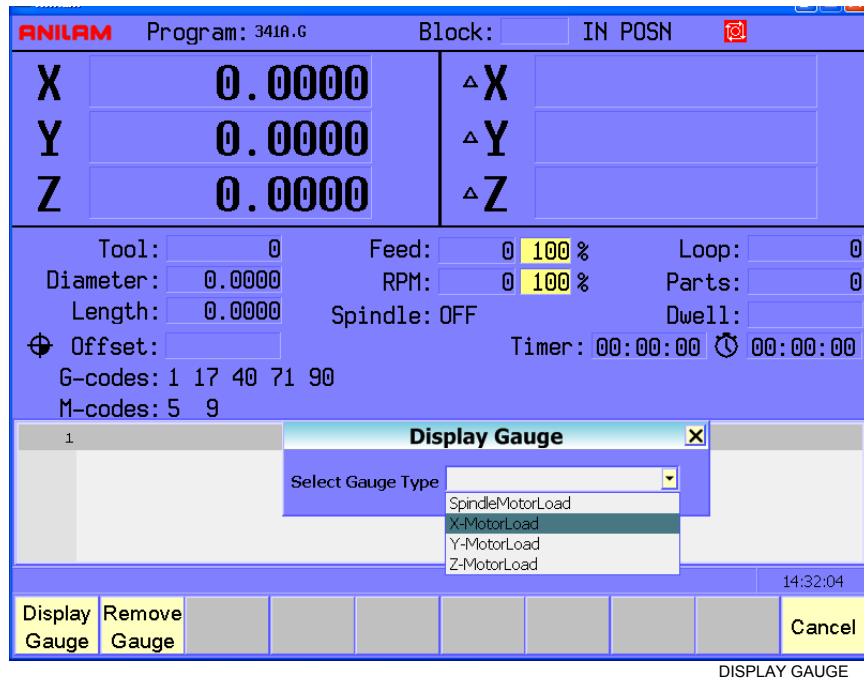

Figure 3-4, Display Gauge from SHIFT Manual Screen
7. Press the **Display Gauge (F4)** soft key to display the Display Gauge screen (refer to **Figure 3-4**). Select the Gauge information that you want to display on the Manual screen: